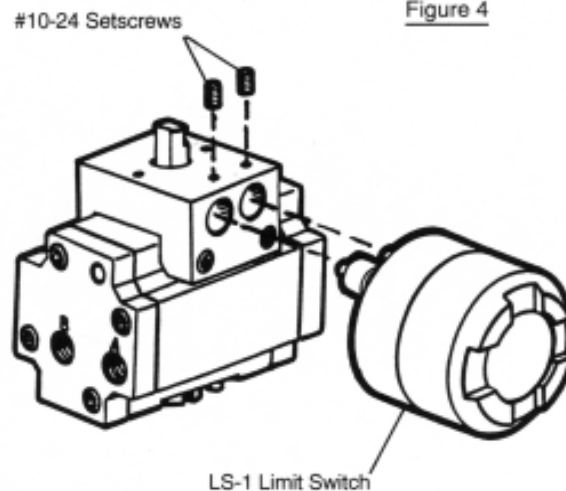

Figure 5
1. Fit the bushings, which extend from the Limit Switch housing, into the matching holes in the long side of the mounting bracket. Push switch housing against bracket and verify that switch body touches bracket. Secure switch body to bracket with two #10-24 setscrews using a medium strength (non-permanent) thread locker (not included in mounting kit). . Note: Hex wrench supplied with LSM Mounting Kit. Figure 5.